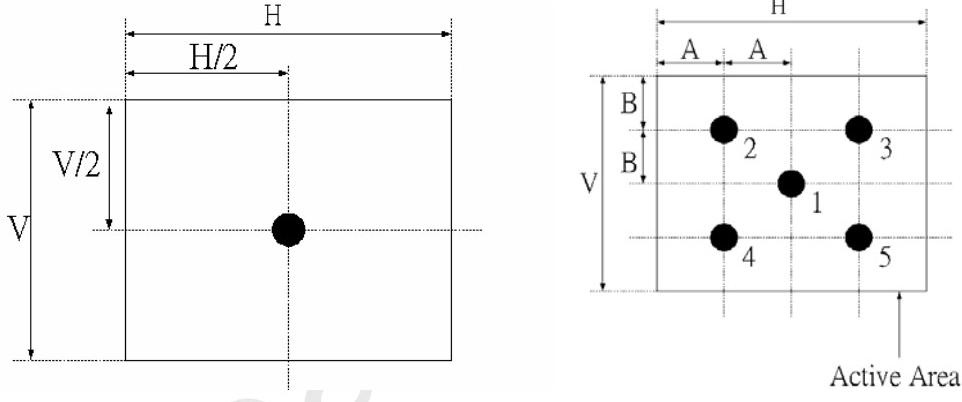

Fig.4-2 Optical measurement point
3. Surface luminance is luminance value at point 1 across the LCD surface 50cm from the surface with all pixels displaying white. From more information see FIG 4-2. When $I_{BL} = 6.5\text{mA}$, $L_{WH}=550\text{cd/m}^2$ (typ.) $L_{WH}=L_{on1}$, Where L_{on1} is the luminance with all pixels displaying white at center 1 location.